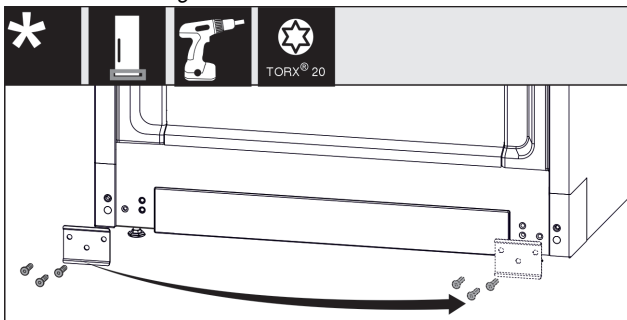

Fig. 16
- ▶ Unscrew the plate Fig. 16 (1), move it to the other side and screw it back on.